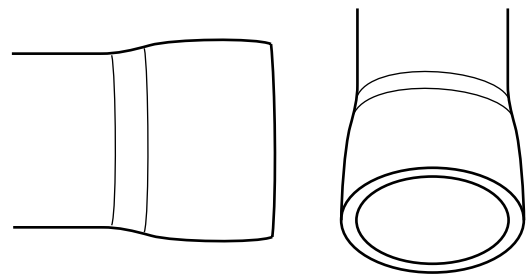

Fig. 15
**Cause:** The temperature was too low, the heating time too short, or both. See Fig. 15.
**Cause:** Too much time elapsed between removal of tubing from heater block to placement on flaring mandrel. See Fig. 15.